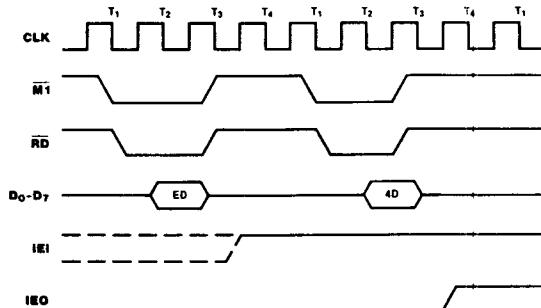

Figure 19. Return From Interrupt
**Return From Interrupt Cycle.** If a Z80 peripheral has no interrupt pending and is not under service, then  $IEO = 1$ . If it has an interrupt under service (i.e., it has already interrupted and received an interrupt acknowledge) then its  $IEO$  is always Low, inhibiting lower priority devices from interrupting. If it has an interrupt pending which has not yet been acknowledged,  $IEO$  is Low unless an "ED" is decoded as the first byte of a 2-byte opcode (Figure 19). In this case,  $IEO$  goes High until the next opcode byte is decoded, whereupon it goes Low again. If the second byte of the opcode was a "4D," then the opcode was an RETI instruction.